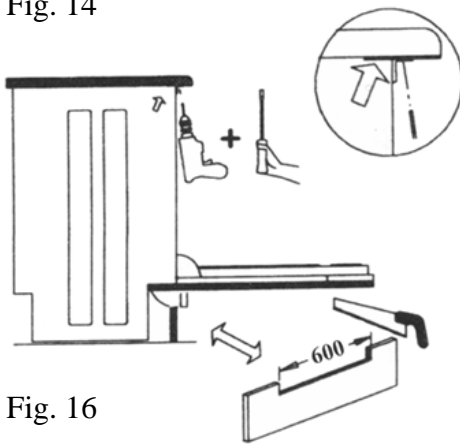

Fig. 16
10. Fit unit kicking strip and check clearance with door by opening fully. If necessary trim the strip as per Fig. 16.
11. Once installation is correct, fix appliance to worktop (Fig. 16).